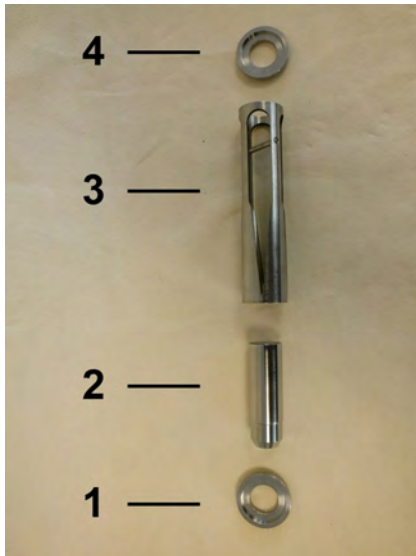

Fig. 40: Inner parts DWM
- 5.** ▶ The inner parts of the flow monitor consist of the centering disc (inlet) (Fig. 40/1), float (Fig. 40/2), slot nozzle (Fig. 40/3) and centering disc (outlet) (Fig. 40/4).